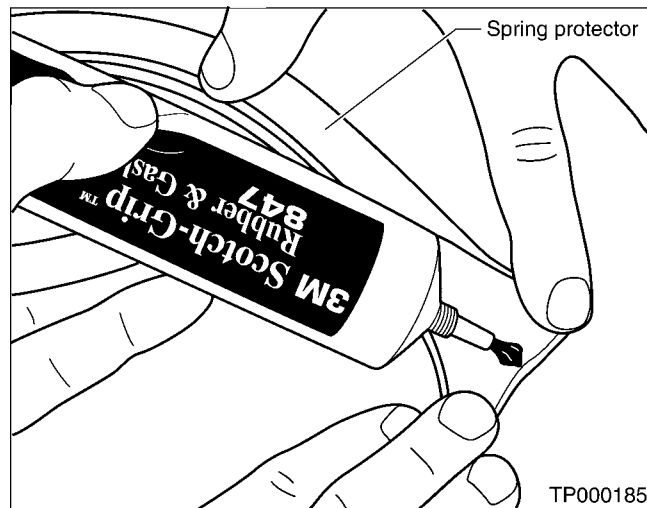

Figure 3
5. Apply a bead of 3M Scotch-Grip™ Rubber and Gasket Adhesive P/N 847 (or equivalent) to the center of the spring protector (see Figure 3). Lay the bead along the entire inside length of the spring protector.